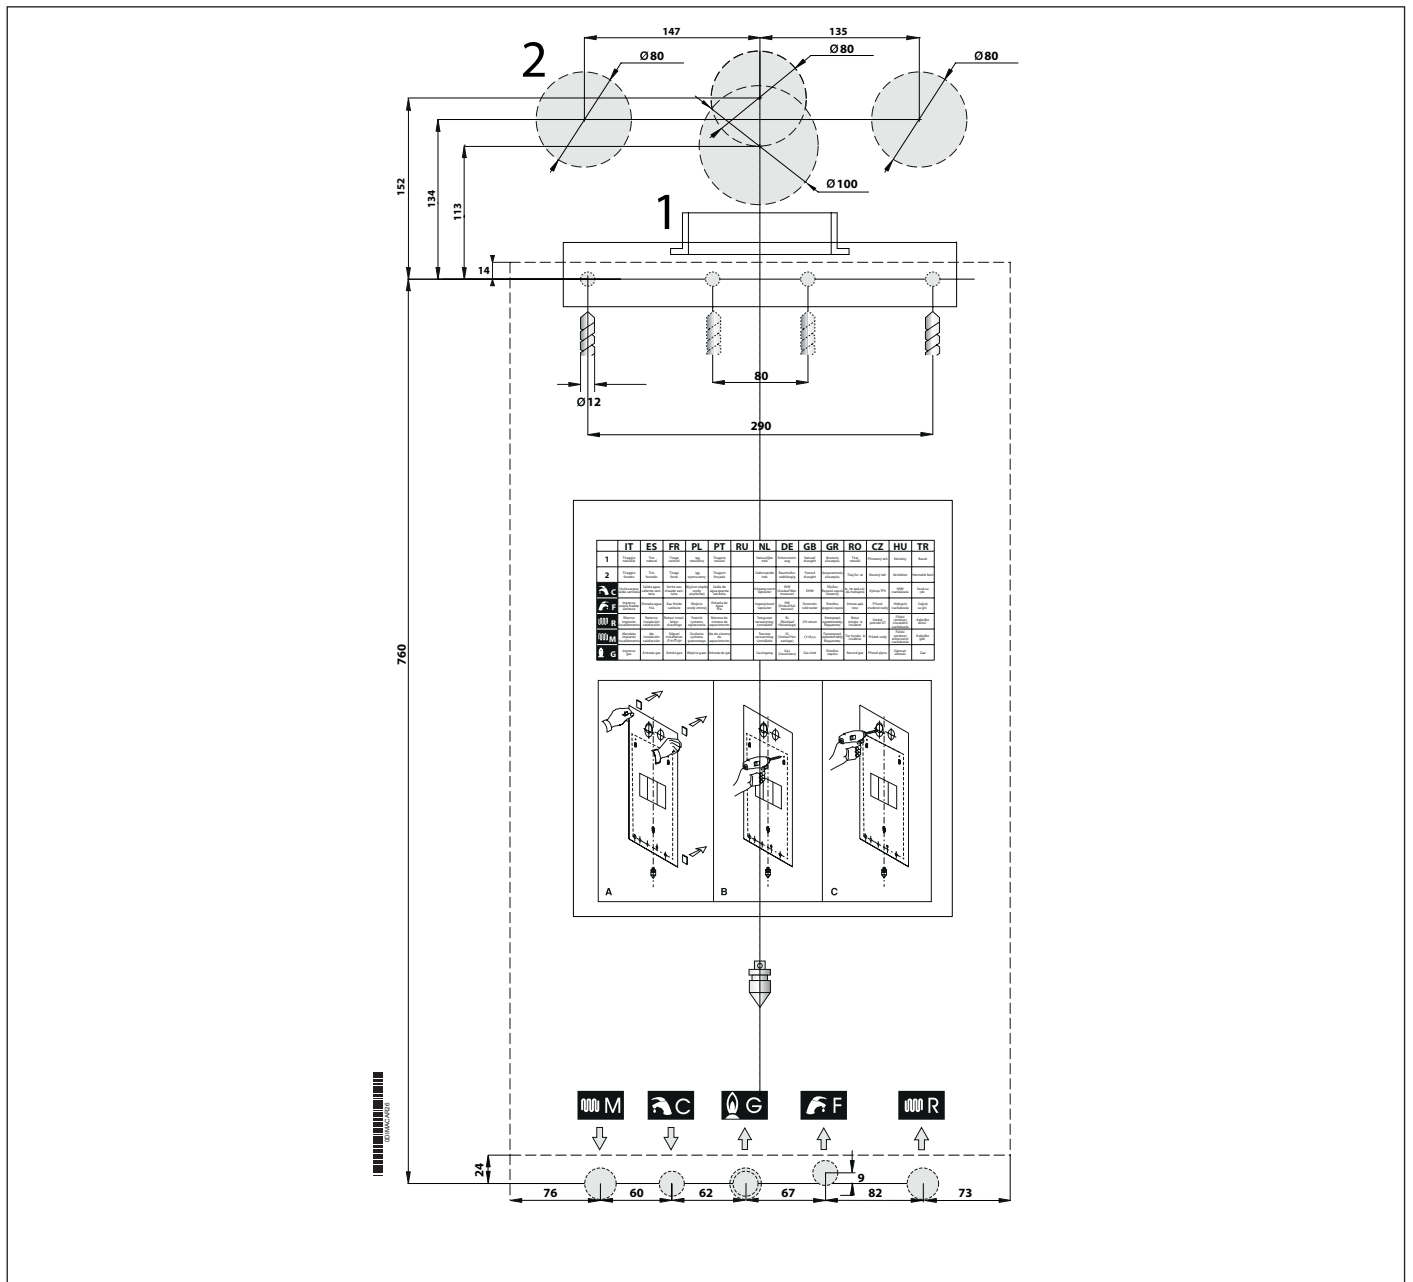

Fig. 5 Paper template
- » the template for mounting the boiler on a wall (see Fig. 5 Paper template).
Each boiler is supplied with a paper template, found inside the packaging (see Fig. 5 Paper template).